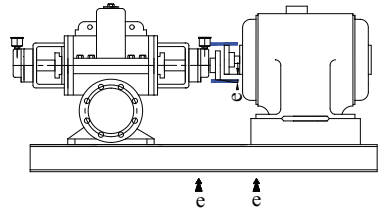
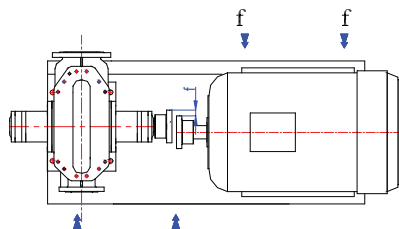

Figure 4: Parallel axis misalignment in vertical plane and its correction
Figure 6: Parallel axis misalignment in horizontal plane and its correction
1. Parallel axis misalignment (Figure 4 - Figure 6)